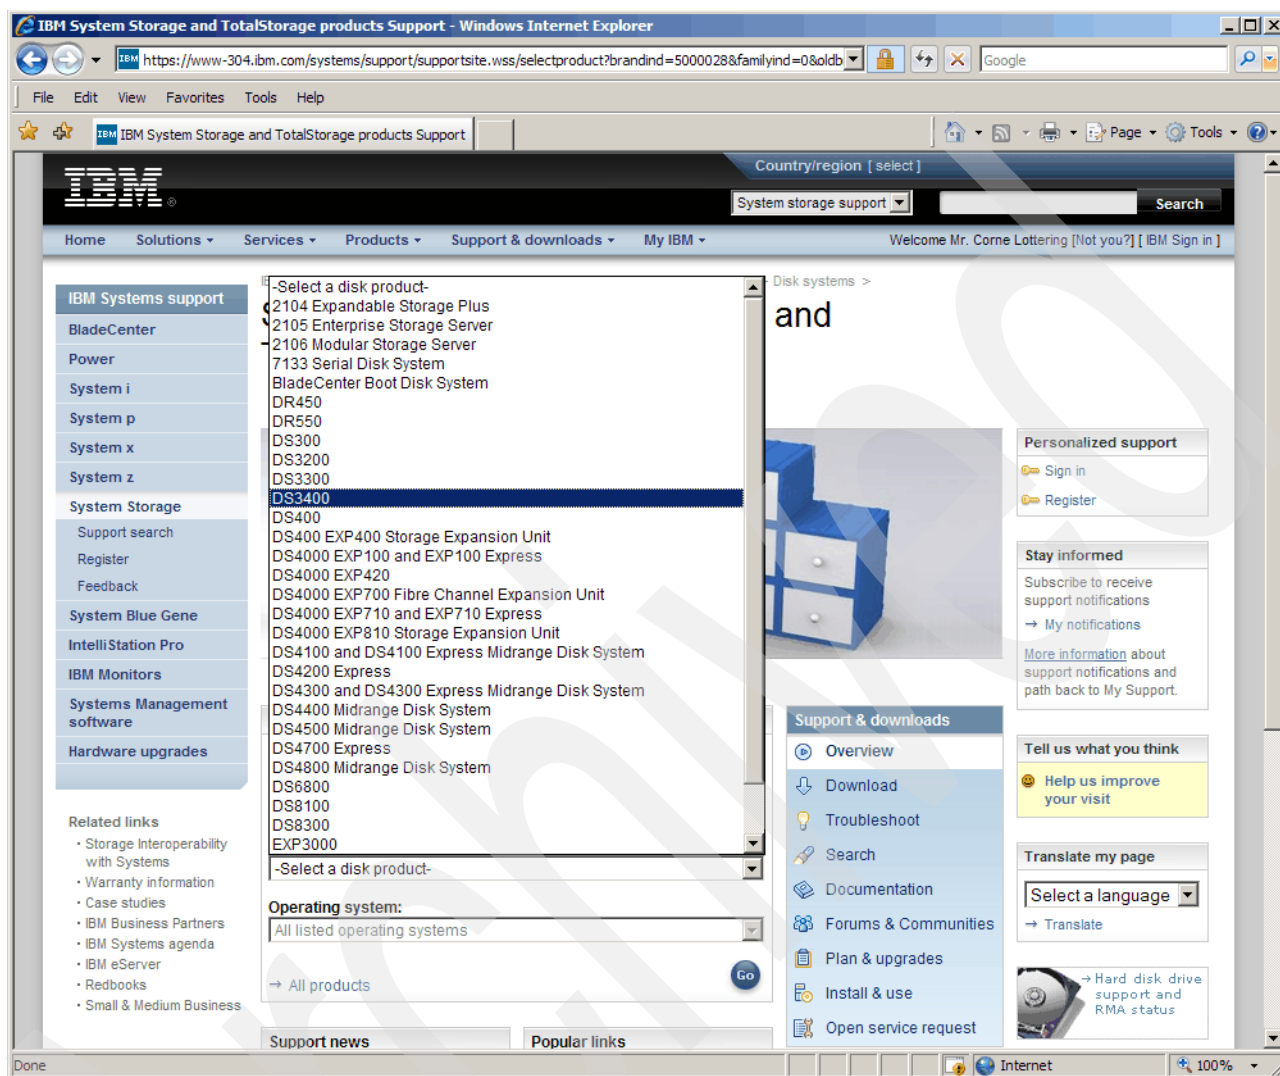

Figure B-3 IBM Support - Select a product
3. From the Product drop-down menu, select the appropriate DS3000 storage product. Figure B-3 uses the DS3400 server as an example.